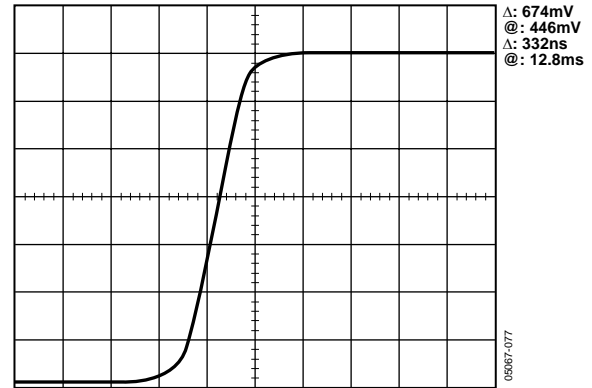

Figure 76. Output Signal from Adaptive Filter Control
When changing the adaptive filter mode to Mode B [Address 0x15, Bit 6], the output shown in Figure 76 can be obtained.
**Table 35. Register Settings for Figure 76**